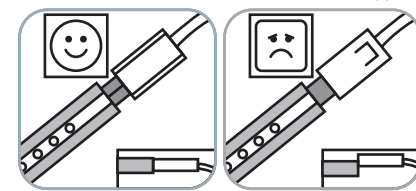

FIGURE 5
8. Connect a linking cord by placing the exposed male connector of the linking cord into the matching female connection point on the installed Bright Strip (see Figure 5).
5. Connect the LED Driver to the Bright Strips by placing the female connector of the linking cord coming from the LED Driver onto the male connection point of the first Bright Strip in the chain, ensuring the connector is flush with the fixture. Snap the clear securing tab over the connection point (see Figure 5 & 6).